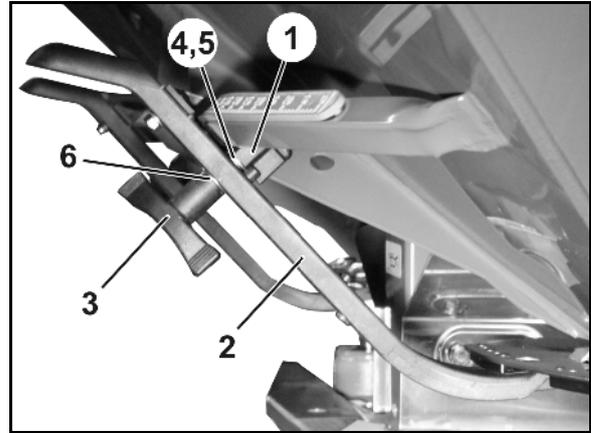

Fig. 83
6. Set up the clamping device (Fig. 83/1) for setting levers (Fig. 83/2) as follows:
- 6.1 Unscrew the wing nut (Fig. 83/3).
- 6.2 Remove the screw and reposition the two washers (Fig. 83/4) from the back (Fig. 83/5) to the front (Fig. 83/6).